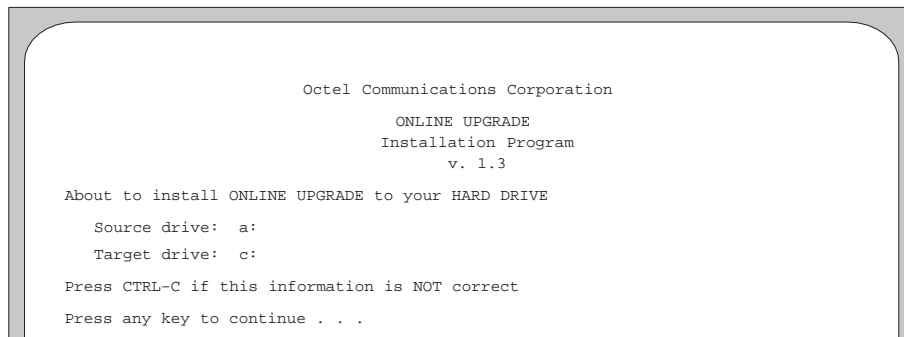

Figure 13-3. The PC's ONLINE UPGRADE Installation Program Screen.
6. At the `A:\>` prompt, type *install a: c:*, and press **Enter** to specify the hard drive as the destination for the online-upgrade-tool software. The PC's ONLINE UPGRADE Installation Program screen appears, as shown in Figure 13-3.